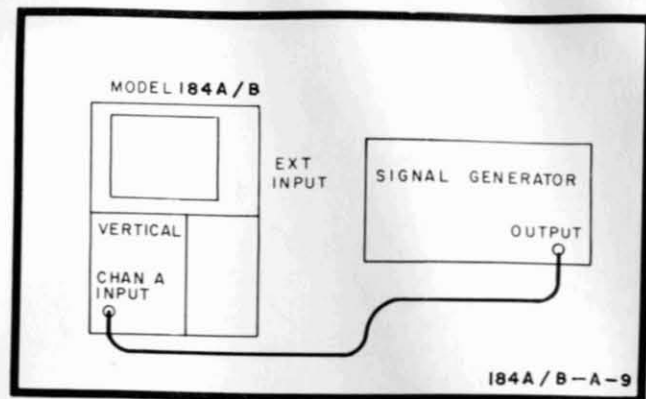

Figure 5-15. Fast Writing Rate Adjustment
t. Connect signal generator 8.5-MHz sine wave output to vertical amplifier input (figure 5-15).